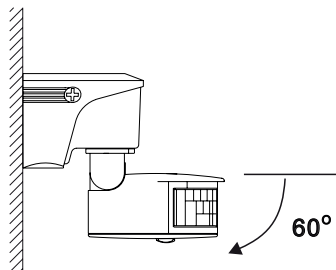

FIG.13
5. Adjust sensor head aiming to the direction to be detected (See FIG.13).